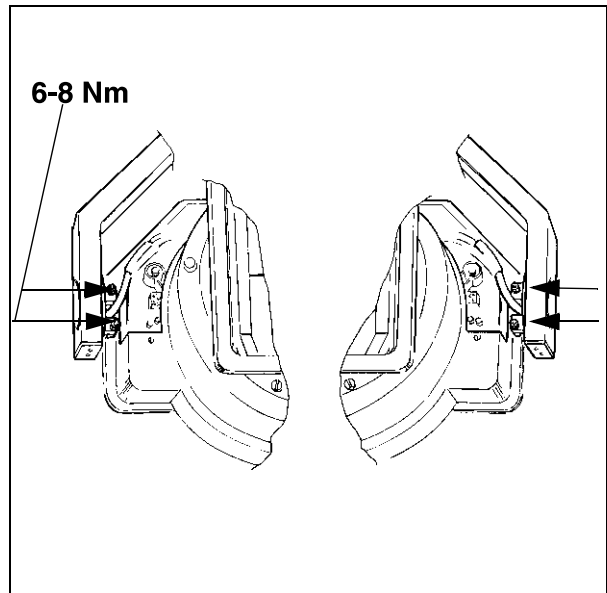

Fig. 16:
- Check the four screw connections of the single tank. They are accessible from the top side of the single tank without removing the cover (Fig. 16 / p. 36).